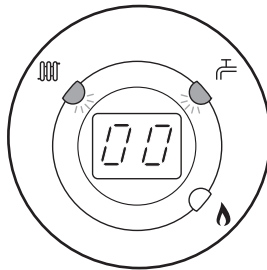
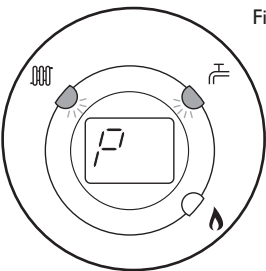

Fig. 58
Fig. 59
5. Turn CH temperature control knob fully clockwise. As the knob is turned the display will change from '0' to '00' (Fig. 58) indicating maximum rate, then revert to 'P' alternating with the current boiler temperature (Figs 59 & 60).